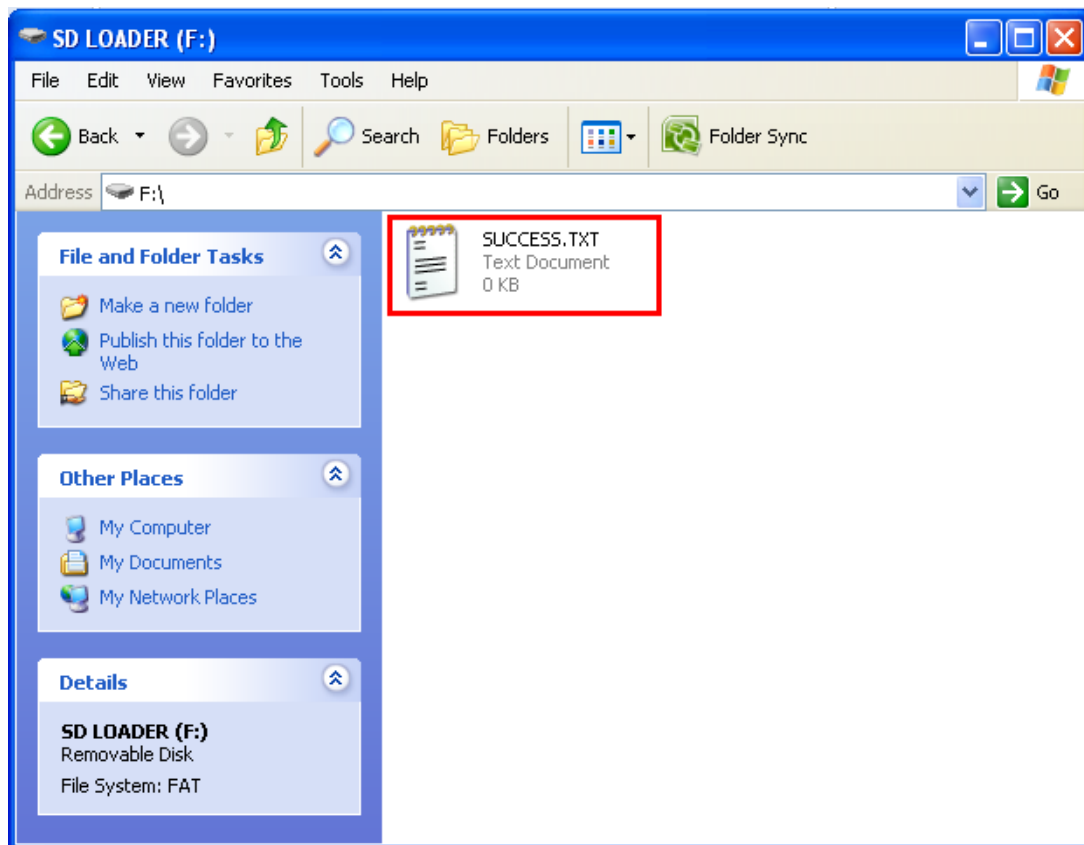

Figure J-14. Transfer success rate
7. When transferring finish, by Double-clicking on the SD LOADER icon, you will see a SUCCESS.TXT file Figure J-14.